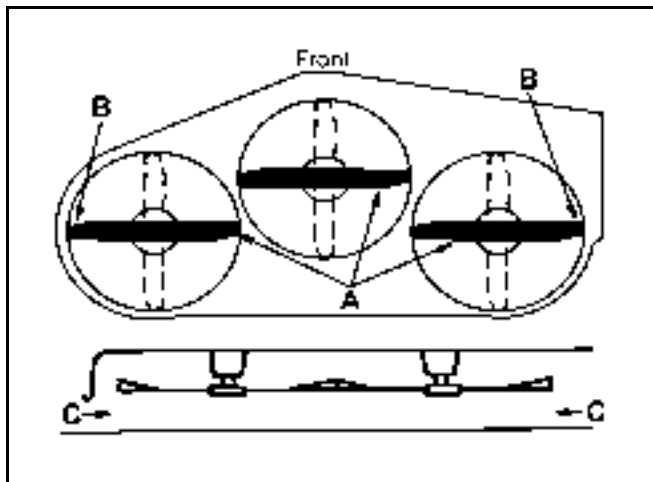

Figure 241 1078-1
4. Carefully rotate blade(s) side to side (Figure 241). Measure between the outside cutting edges and the flat surface (Figure 241). If both measurements are not within 3/16" (5mm), an adjustment is required; refer to steps 5 and 6.